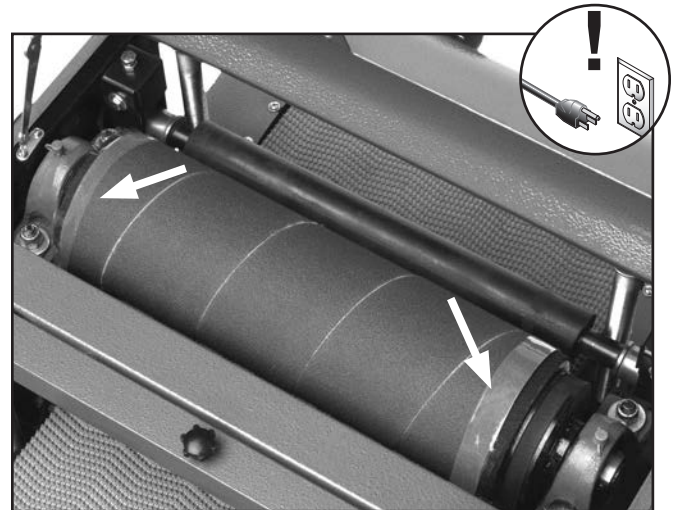

Figure 18. Sandpaper ends taped on Model G0459.
6. Tape both ends with 3/4" strapping tape (**Figure 18**), making at least two complete passes so that the second layer is directly on top of the first.